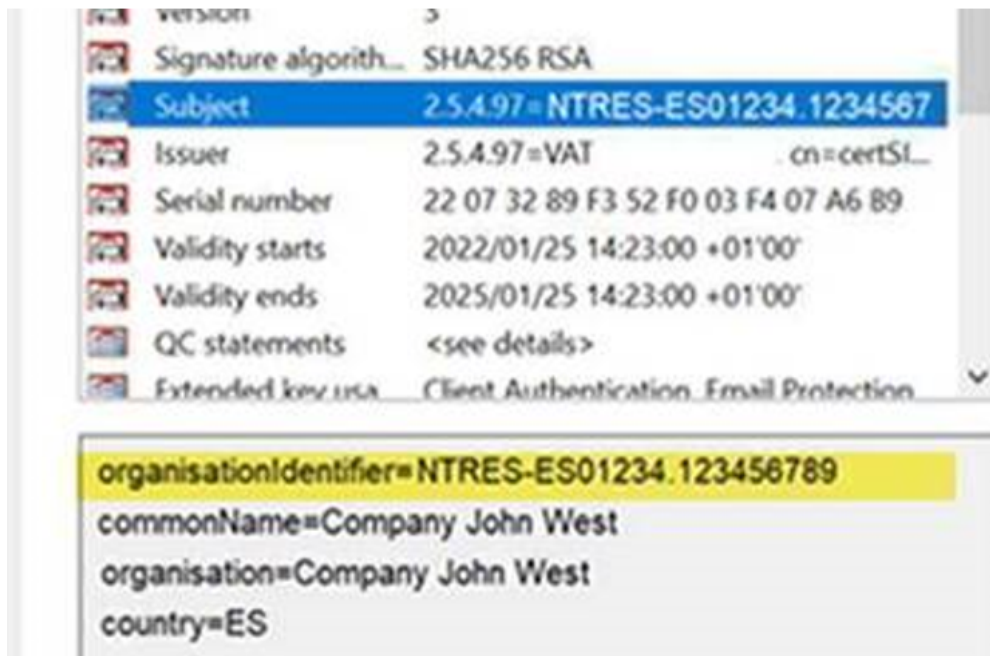

Figure 17 - the "Organisation identifier" content included in the seal
- **Organisation identifier:** here you have to copy the content of the attribute 2.5.4.97 “precisely” as indicated after the “=” sign (Figure 17).